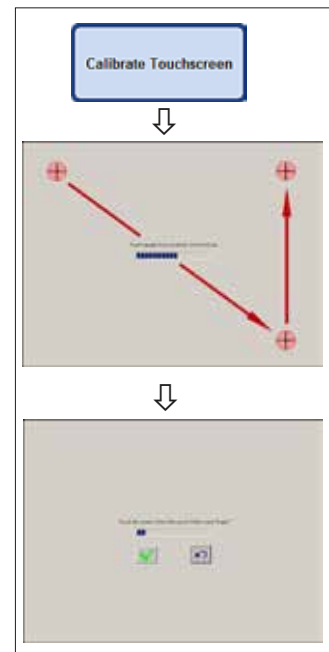

Fig. 78
#### Calibrating the touchscreen (Fig. 78)
- Touch the red circle in the middle of the screen (three times in total), starting in the upper-left corner (Fig. 78, top).
- Then touch any point on the screen and check that the cursor follows the movement (Fig 78, bottom).